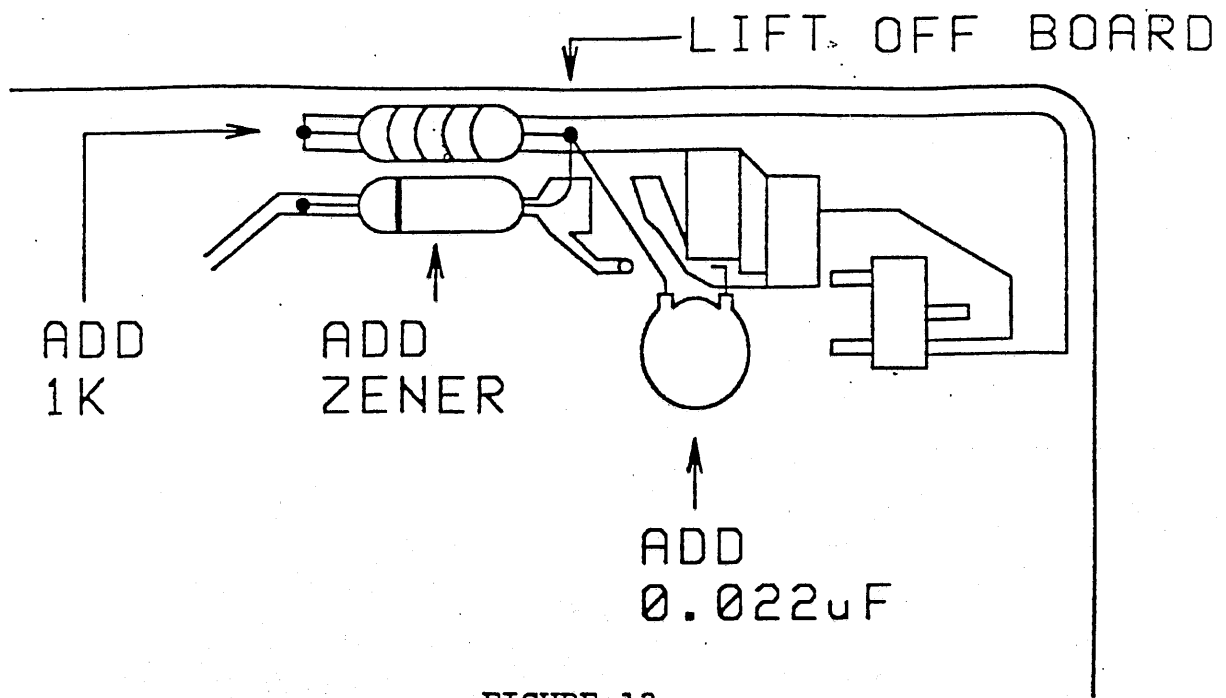

FIGURE 12
26. Place the 3.0V zener diode on the board. Size and cut the diode's cathode lead. Solder the lead to the board. **Figure 12**
27. Place the 1K ohm resistor on the board. The body of the resistor must be parallel to the diode. Size and cut the resistor's left hand lead. Solder the lead to the board. **Figure 12**
28. Bend the diode's anode lead and solder it to the resistor's right hand lead. Do not allow the leads to touch the board. Trim the leads after soldering. **Figure 12**
29. Prepare the 0.022uF capacitor for installation. Place the component on the board to size and cut the leads. **Figure 12**
30. Solder the left hand lead to the junction of the zener diode and 1K resistor. Do not let the connection touch the board. **Figure 12**
31. Solder the right hand lead to the board as shown. **Figure 12**